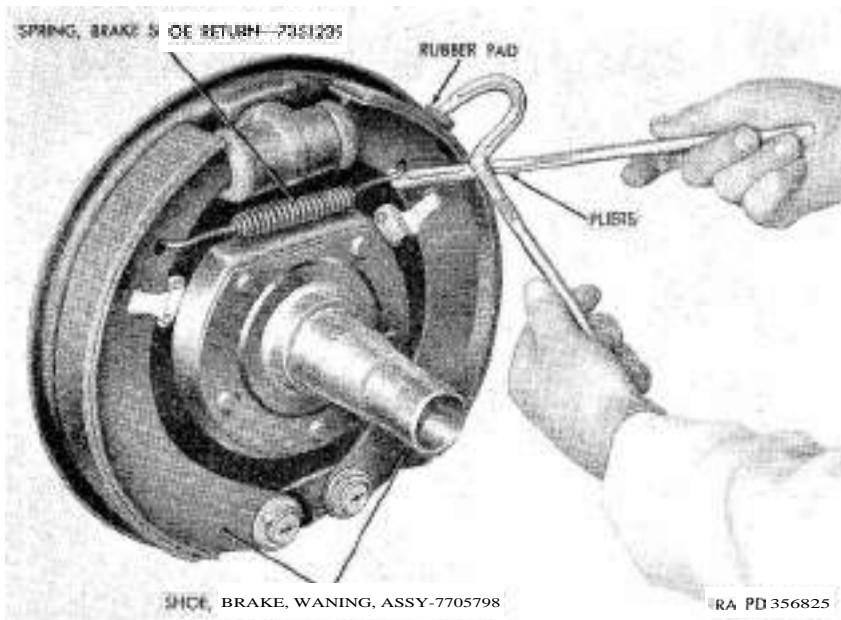

Figure 149. Removing brake shoe return spring with brake spring pliers.
- (1) Remove brake shoe return spring (W) with pliers (fig. 149).
Note. A tough rubber pad must be used between pliers (fig. 149) and brake lining to prevent damage to lining. A suitable piece of rubber can be cut from a discarded tire.
- (3) Make certain upper ends of brake shoes are properly engaged in slots in boots at each end of wheel cylinder.
- (4) Engage brake shoe return spring (W) in hole at upper end of one of the brake shoes and finish installation in other brake shoe with brake spring pliers (fig. 149).